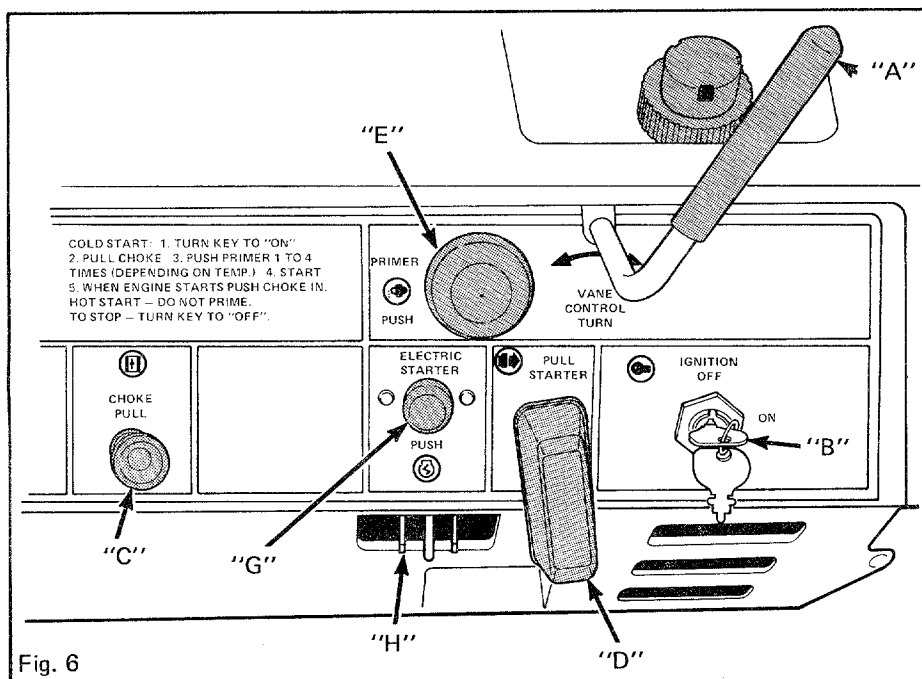

Fig. 6
The vane control (A), Figure 6, is used to direct snow discharge left, right or straight ahead.
The ignition key (B), Figure 6, allows the starting and stopping of engine.
The choke control (C), Figure 6, aids in cold engine starting.
This starter rope (D), Figure 6, allows the engine to start (by pulling) with the key ON.
The primer button (E), Figure 6, permits the operator to hand prime (by pressing) the engine carburetor. NOTE: When priming (Models 225 & 225E only) be sure your thumb is covering vent hole.
This starter button (G), Figure 6, is used to start the engine (by pressing) with the ignition key ON.
1. Plug cord into starter switch connector (H), Figure 6, and a convenient 120 volt outlet.